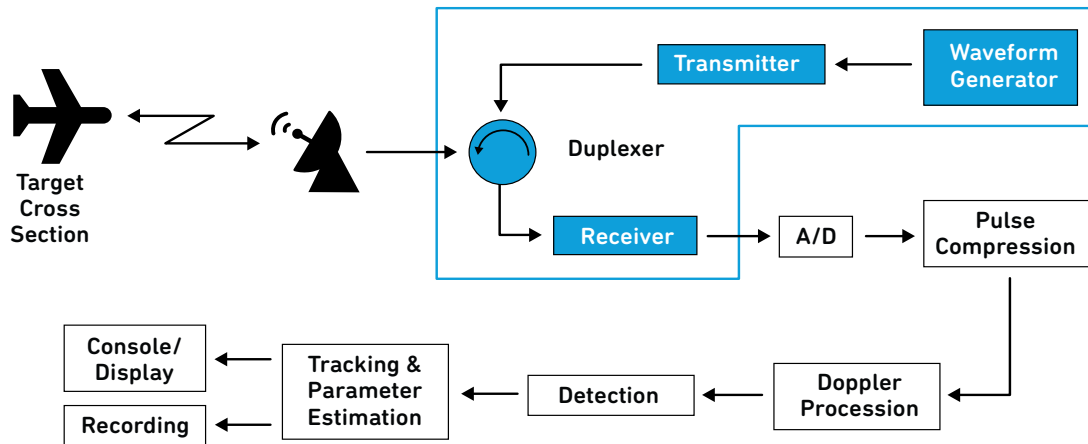

Figure 1. X-band radar T/R modules
- The fundamental building blocks for steering electronic phased arrays are the transmit/receive (T/R) modules (shown in **Figure 1**).